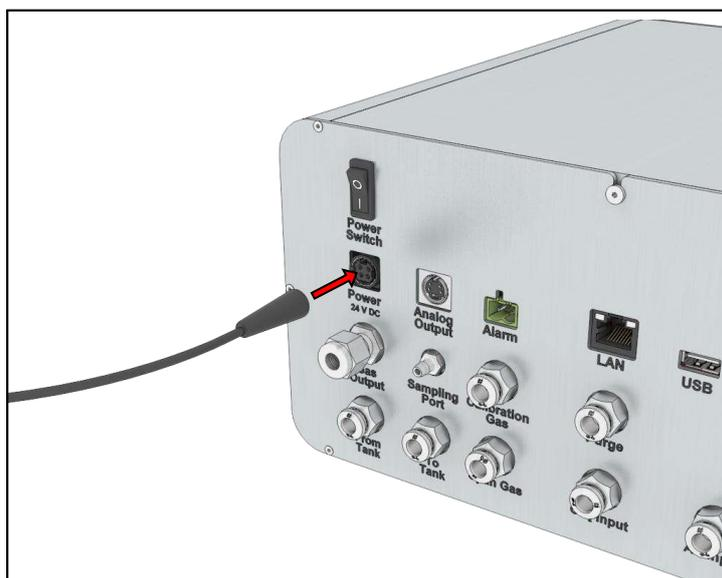

Figure 139. Power cord plugging
9. Connect the Tri-Gas-Mixer to the mains power supply. Switch the Tri-Gas-Mixer on using the power button on the rear panel and plug the power cord from the electrical outlet (see Figure 139).